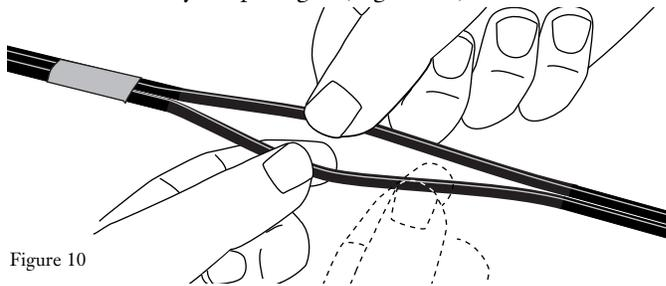

Figure 10
6.2 Using care not to kink the jacketed buffer tube, start at the split and pull the two components away from each other to "tear" the web and separate the two components for the necessary strip length (Figure 10).